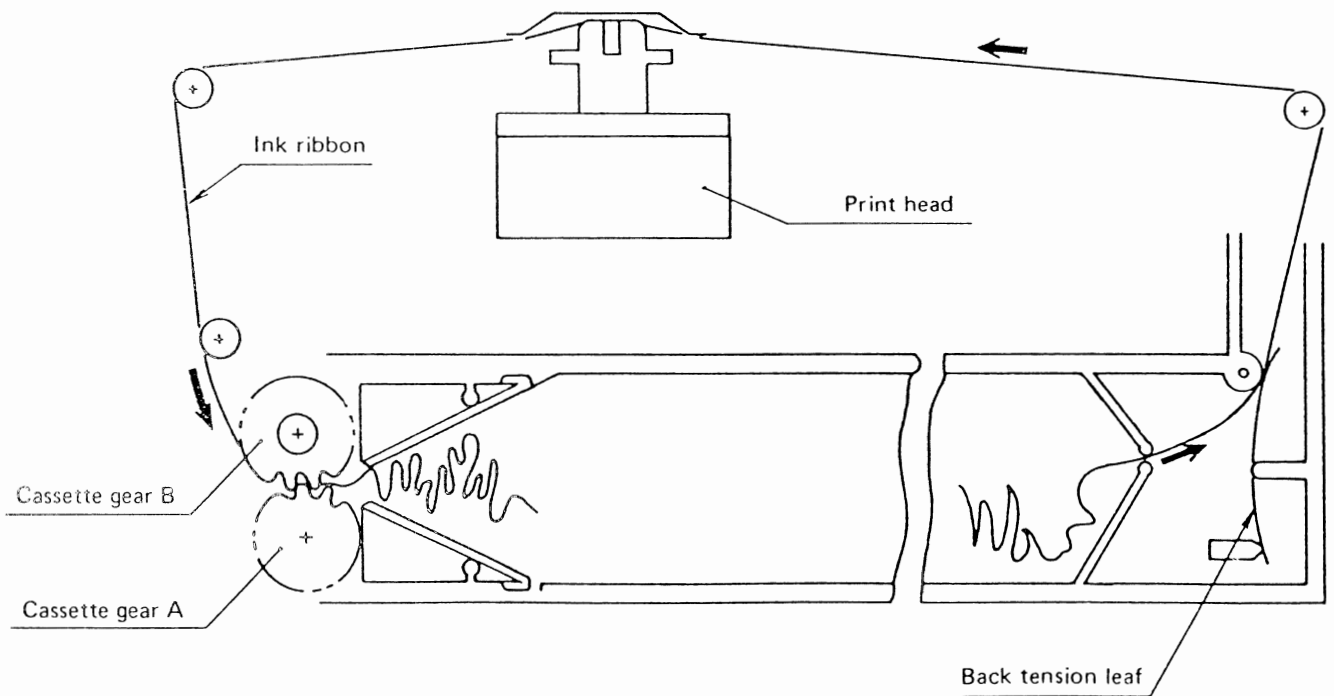

Fig. 4
(2) Ribbon cassette mechanism (see Fig. 4)